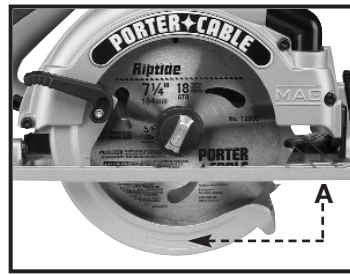

Fig. 3
4. Retract the telescoping guard (A) Fig. 3 and remove the blade.
The telescoping guard (A) Fig. 3 is a safety device important to your protection. Every time you use the saw, verify that the telescoping guard rotates freely and returns quickly and completely to its closed position. At least once a month, remove any accumulated debris (sawdust, pitch, etc.) from the area around the hub (B) of the telescoping guard. **DO NOT LUBRICATE THIS AREA.** The hub has a dry film lubricated surface that does not need oiling. **DO NOT** block or wedge the telescoping guard in the open position.